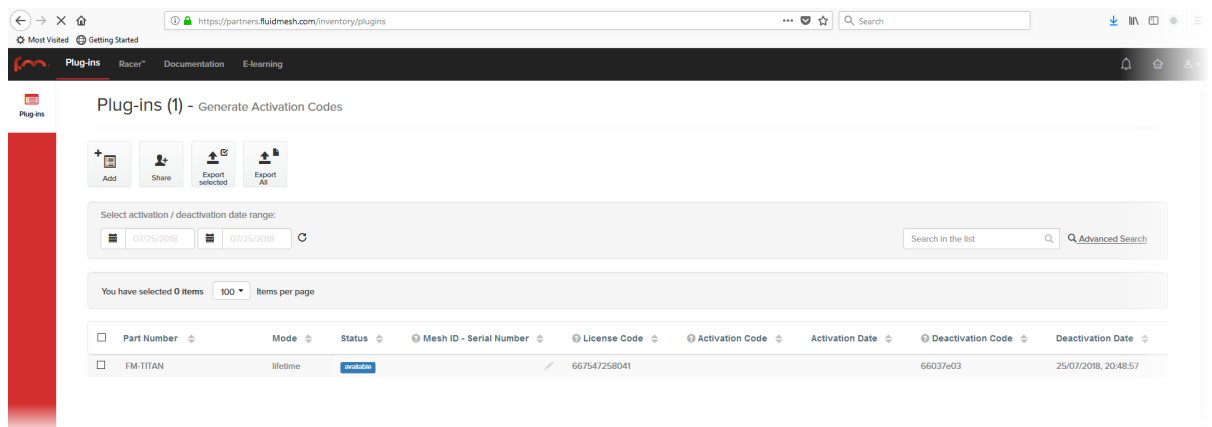

Figure 61. Partner Portal (Plug-ins web page)
- The Plug-ins web page will be shown (Figure 61 \(page 117\)).